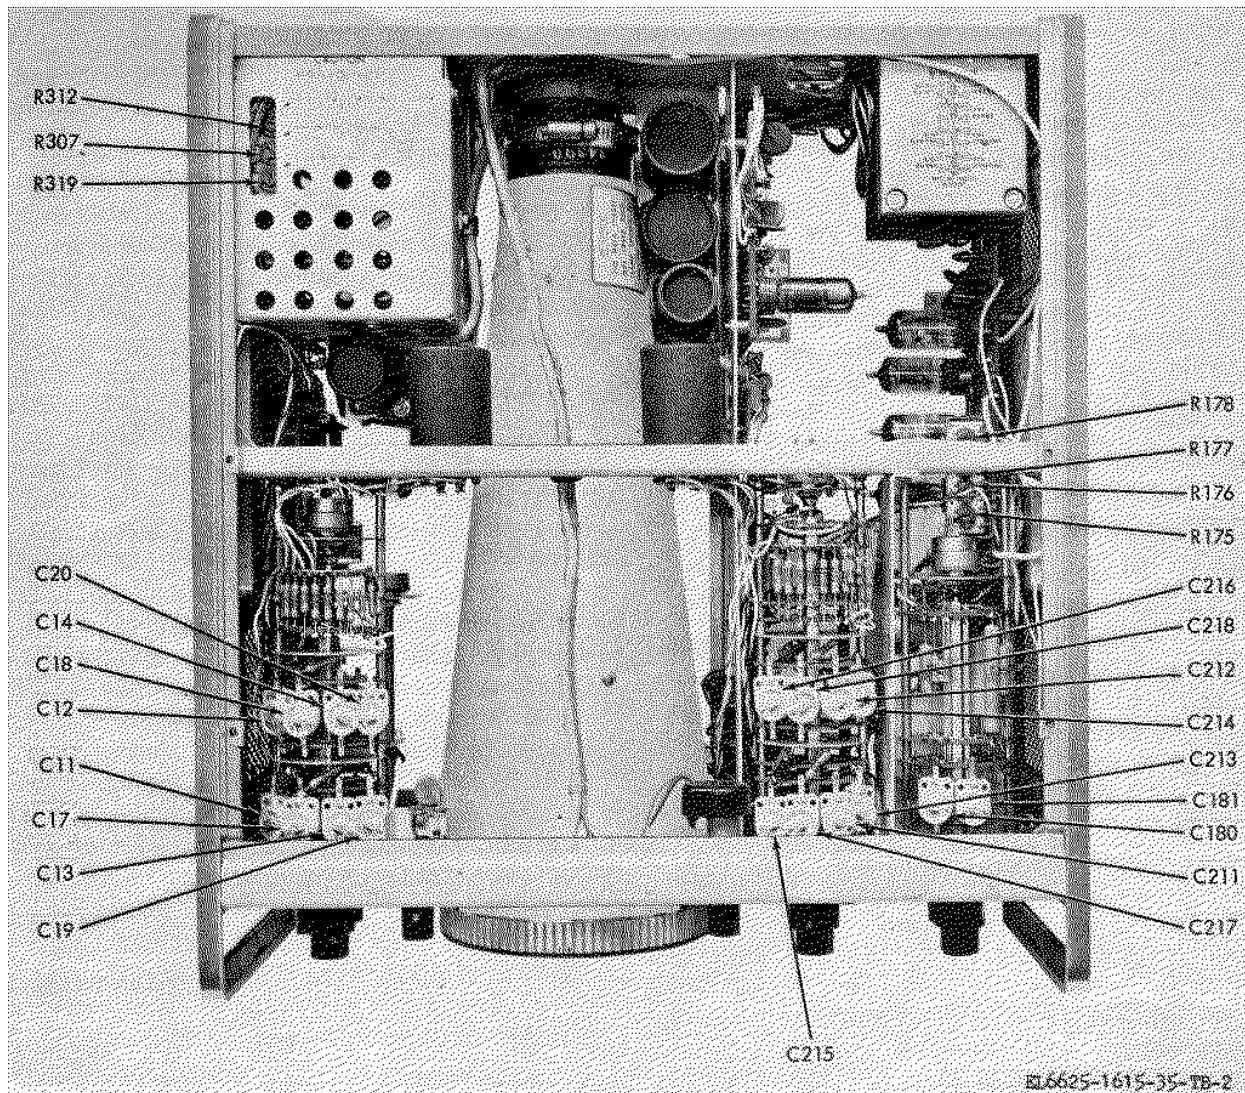

Figure 2. Oscilloscope-top interior view.
j. Adjust test instrument INTENSITY, FOCUS, and POSITION controls for a low intensity, small round sharply focused dot centered on crt. If necessary, adjust R319 (Fig. 2) for smallest in-focus spot.
l. Turn test instrument INTENSITY control to 10-o'clock position for a no-dot display on crt. If necessary, adjust R307 (Fig. 2) to extinguish dot.